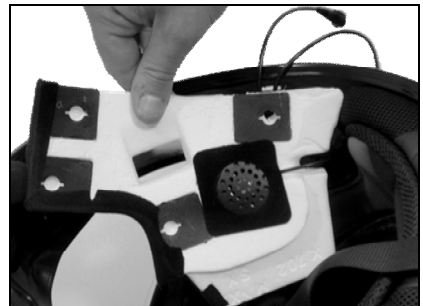

Fig. 26
- Position the left-hand side speaker in the cheek pad housing and secure it using the specific adhesive. (Fig. 26)